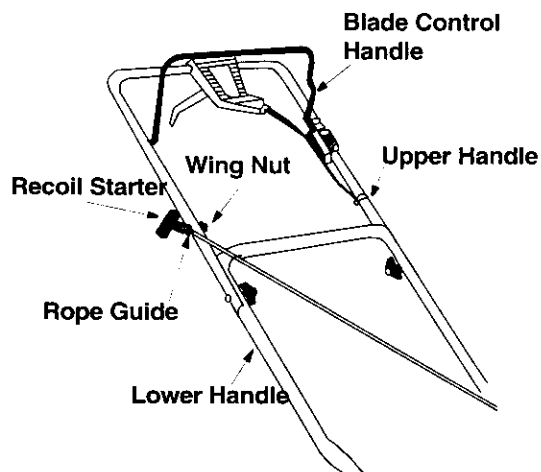

Figure 6
The rope guide is already attached to the right side of the upper handle of your mower. See Figure 6.
- With the spark plug wire disconnected and grounded, and with the safety key in the locked position, pull the starter rope up to the rope guide. See Figure 6.